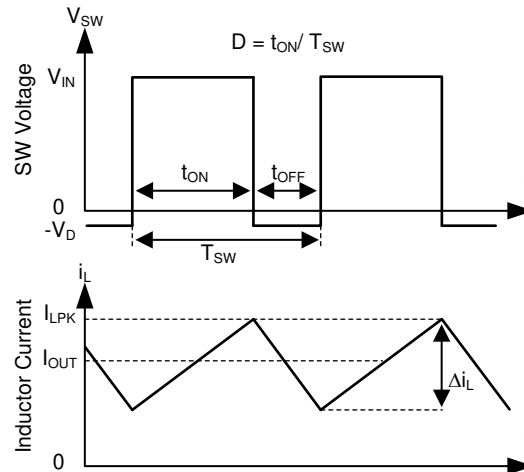

Figure 10-1. SW Node and Inductor Current Waveforms in Continuous Conduction Mode (CCM)
The following operating description of the TPS2584x-Q1 refers to the Functional Block Diagram and the waveforms in Figure 10-1. TPS2584x-Q1 is a step-down synchronous buck regulator with integrated high-side (HS) and low-side (LS) switches (synchronous rectifier). The TPS2584x-Q1 supplies a regulated output voltage by turning on the HS and LS NMOS switches with controlled duty cycle. During high-side switch ON time, the SW pin voltage swings up to approximately V_{IN} , and the inductor current i_L increase with linear slope $(V_{IN} - V_{OUT}) / L$. When the HS switch is turned off by the control logic, the LS switch is turned on after an anti-shoot-through dead time. Inductor current discharges through the LS switch with a slope of $-V_{OUT} / L$. The control parameter of a buck converter is defined as Duty Cycle $D = t_{ON} / T_{SW}$, where t_{ON} is the high-side switch ON time and T_{SW} is the switching period. The regulator control loop maintains a constant output voltage by adjusting the duty cycle D . In an ideal buck converter, where losses are ignored, D is proportional to the output voltage and inversely proportional to the input voltage: $D = V_{OUT} / V_{IN}$.